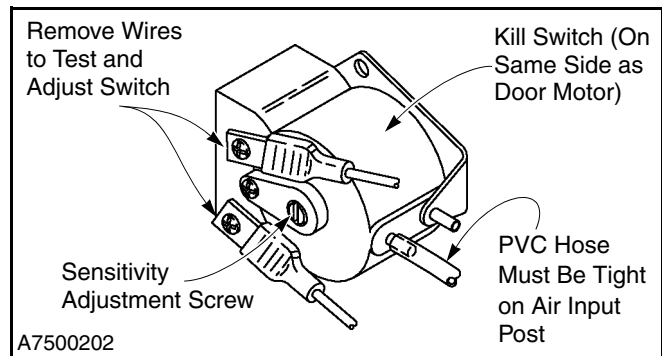

Figure 30
1. Remove the wires from the contact terminals and attach an ohmmeter across the two terminals. (See Figure 30.)